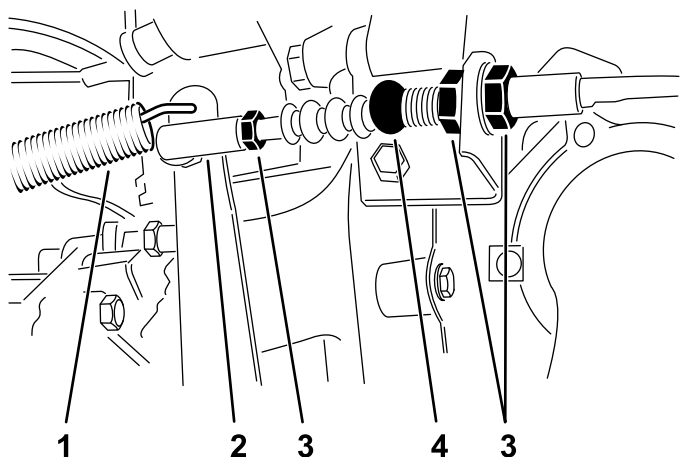

Figure 63
1. Loosen the jam nuts securing the clutch cable to the bracket on the bell housing (Figure 63).